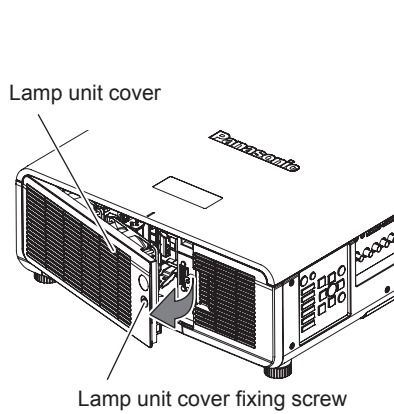

Fig. 1
- 2) Remove the lamp unit cover. (Fig. 1)**